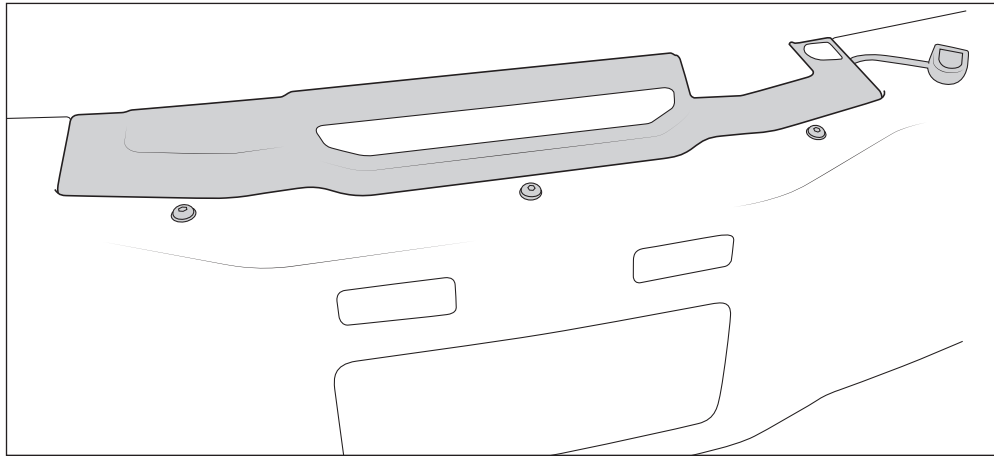

Figure 36
13. Slide winch cover plate and plug into place underneath top face of bumper. Loosely attach front 3 mounting tabs using provided black M8 hardware (fig. 36).
1. Slide winch delete plate into place underneath top face of bumper. Loosely attach front 3 mounting tabs using provided black M8 hardware (see fig. 36).